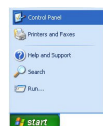

Figure 1
1. Click the **Start** button and select **Settings** menu. (Figure 1)